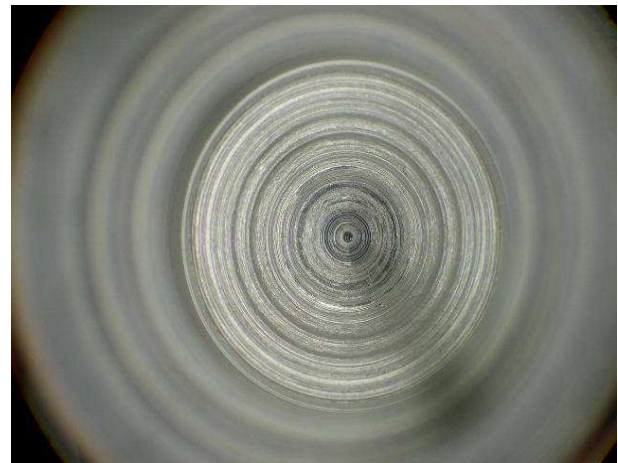

Figure 11 Bottom of Counter Bore Cleanliness Examples
3. Examples of an unacceptable vs. an acceptable cleanliness part (see Figure 11):